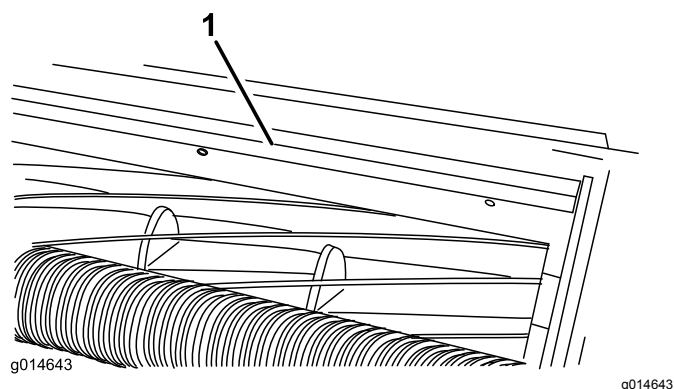

Figure 11
1. Loosen the bolts securing the top bar (Figure 11) to the cutting unit.